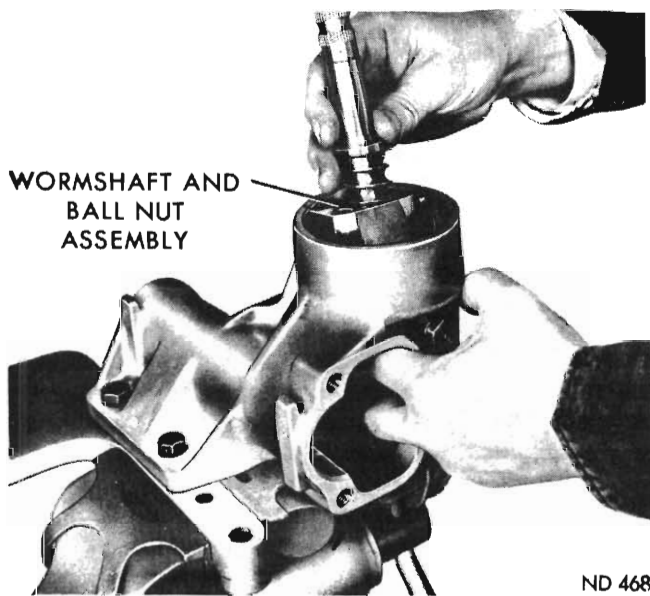
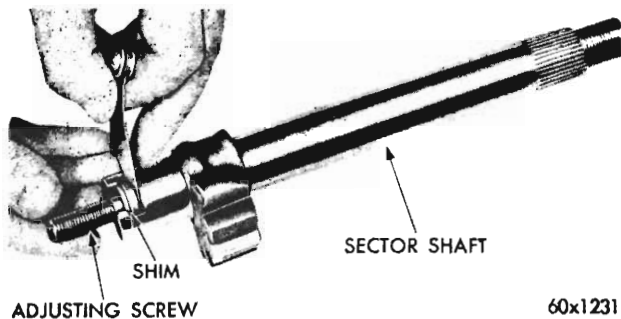

Fig. 6 - Removing wormshaft and ball nut assembly
Fig. 11 – Checking cross-shaft adjusting screw end play
(9) Carefully remove the worm and ball nut assembly (See Fig. 6).
(5) Apply a coating of steering gear grease to all moving parts during assembly; also place grease on and around oil seal lips.
(6) Clamp the housing in a vice with the bearing adjuster opening upward.
(7) Place a thrust bearing in the lower cup in the housing.
(8) Hold the ball nut from turning (*See Fig. 6*) and insert the wormshaft and ball nut assembly into housing with end of worm resting in the thrust bearing.
(9) Place the upper thrust bearing on the wormshaft. Thoroughly lubricate the threads on the adjuster and the threads on housing.
(10) Place seal protector Tool E19C25D over splines of wormshaft. If this tool is not available, place a protective sleeve of plastic tape over the wormshaft splines so that the splines do not damage the seal, and slide the adjuster assembly over the shaft.
(11) Thread the adjuster into the steering housing and with the wrench E19C25F and nut E19C25, tighten the adjuster to 50 lbs.-ft. whilst rotating the wormshaft. This is done to seat the bearings effectively.
(12) Loosen the adjuster so no bearing preload exists. Then using lbs./in. torque wrench, adjust wormshaft bearing preload to 1½–4½ lbs.-in.
(13) After adjusting the preload, tighten the bearing adjuster lock nut and then re-check to ensure the preload remains between 1½ and 4½ lbs.-in.
(14) Before installing cross-shaft, pack the wormshaft cavities in the housing above and below the ball nut with steering gear grease. Use steering gear grease whenever possible, but if not available, use GL5-SAE90 gear oil. When the gear is correctly packed with steering gear grease, the level of the grease will be at the top of the worm.
(15) Slide the cross-shaft adjusting screw and shim into slot in the end of the shaft.
(16) Check the end clearance (*See Fig. 11*). The screw must be free to turn with no perceptible end play to .004" loose. Three different thickness shims are available to obtain the specified clearance.